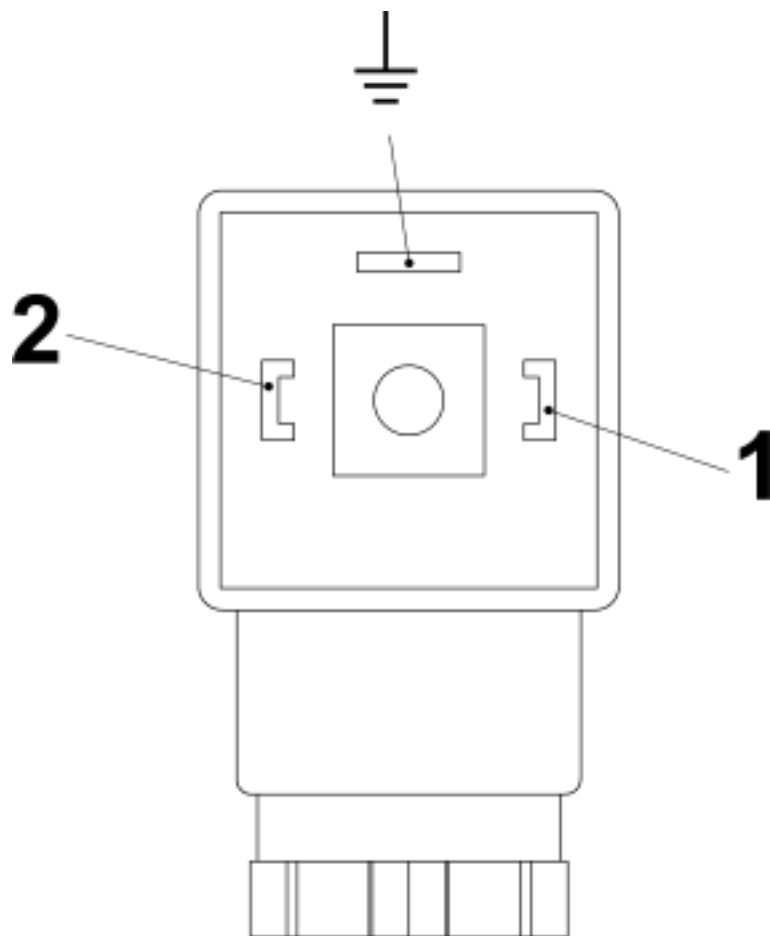
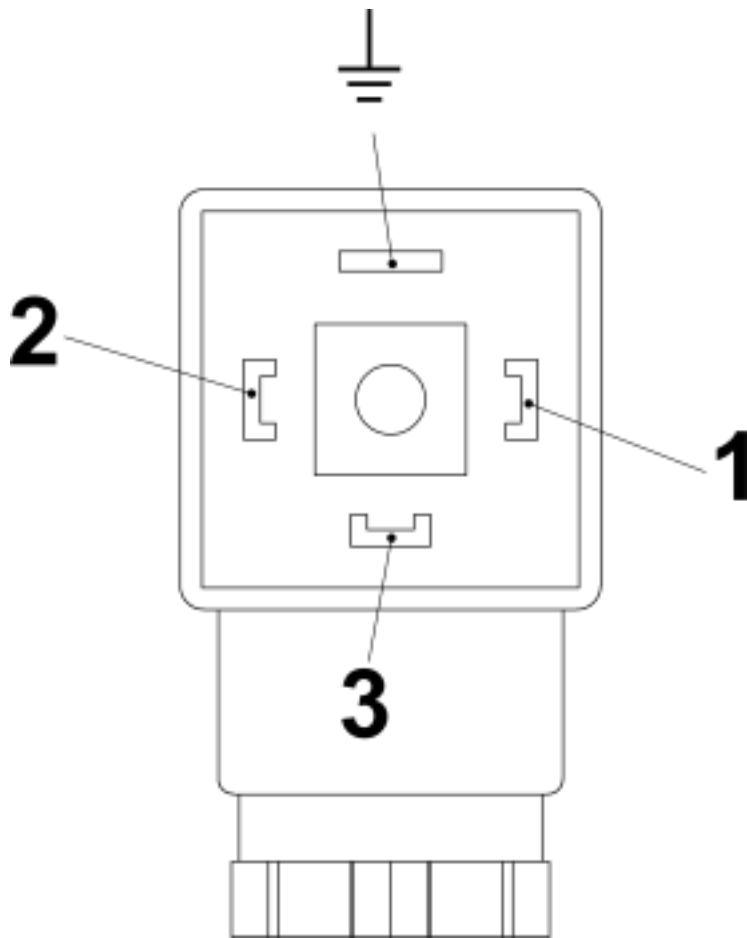

Fig. 31: Pin assignment, plug socket, normally open contact (SG-30 with connector in compliance with EN175301-803)
Fig. 32: Pin assignment, plug socket, change-over contact (SG-30 with connector in compliance with EN175301-803)
- 6.** ➤ Make the connections as shown in the connection diagram (*Fig. 31* and *Fig. 32*).